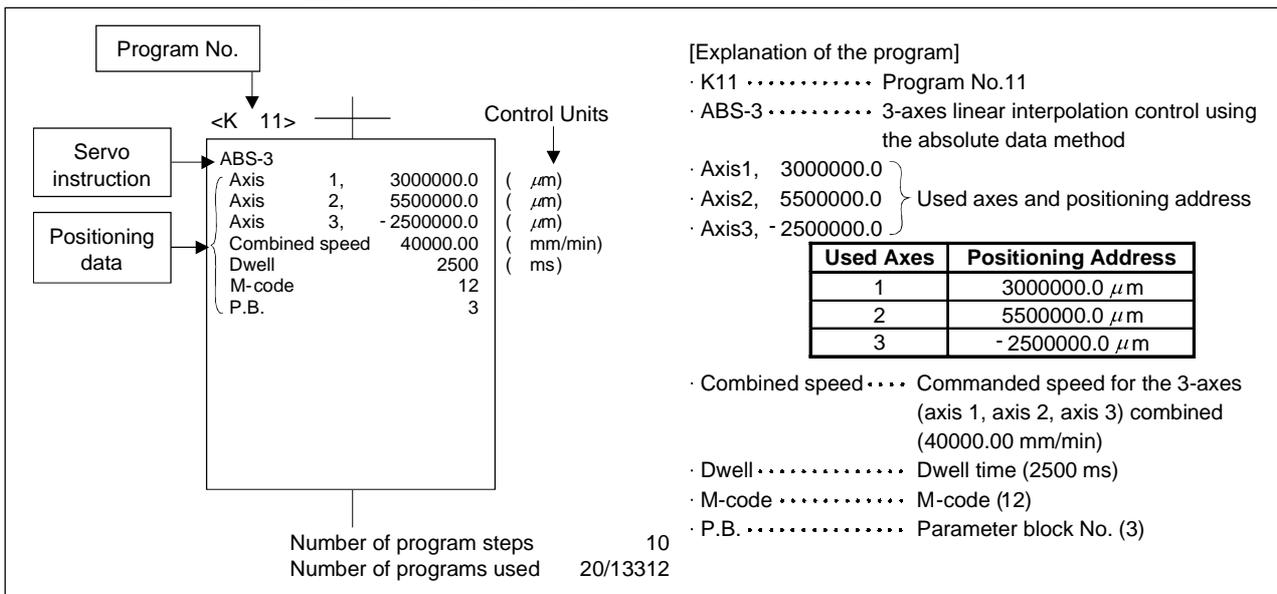

Fig. 6.1 Example Composition of a Servo Program
- (3) Positioning data..... This is the data required to execute servo instructions. The data required for execution is fixed for each servo instruction. For details, see Section 6.3. The following applies for the servo program shown in Figure 6.1: